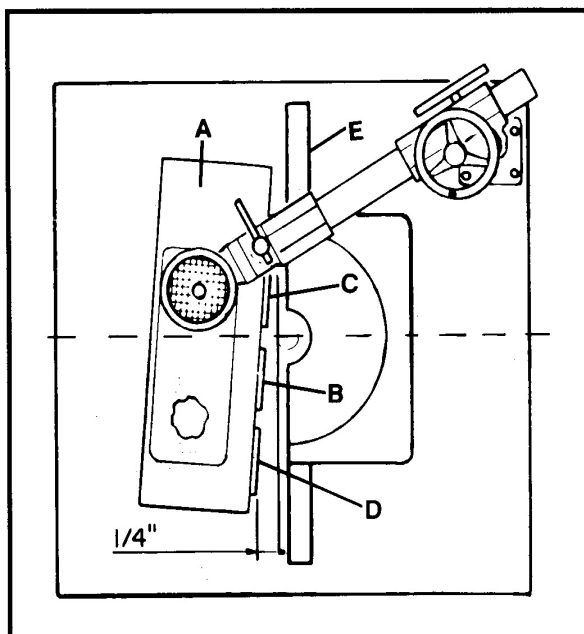

Fig. 14
The feeder assembly (A) Fig. 14, should be positioned on a shaper in such a manner that the shaper cutter is between the middle roller (B) and the outfeed roller (C). The outfeed roller (C) should be approximately 1/4" closer to the outfeed fence (E) than the infeed roller (D).